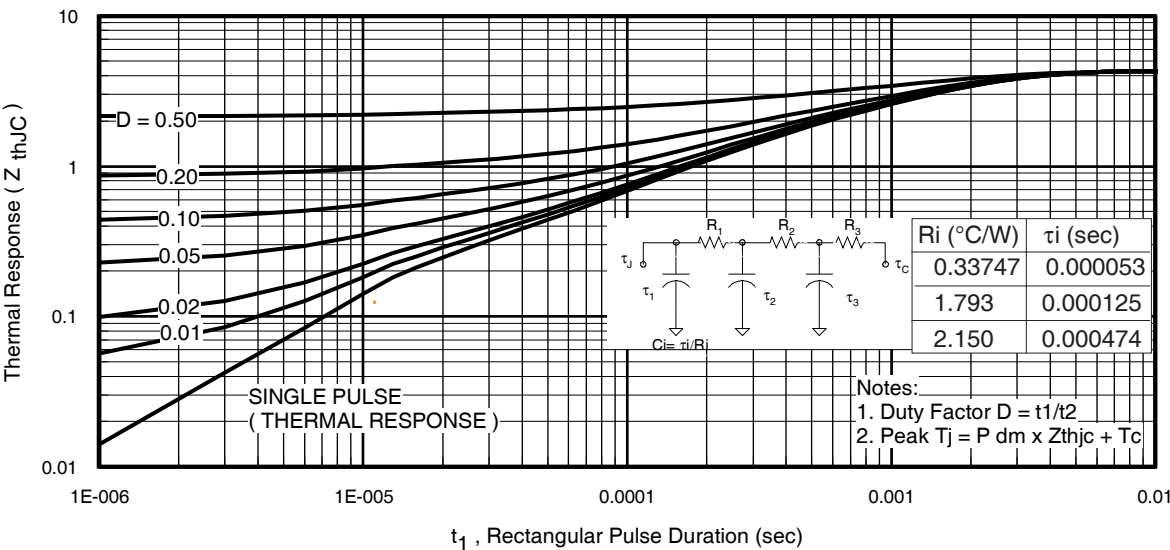

Fig 11. Maximum Effective Transient Thermal Impedance, Junction-to-Case
- ① Repetitive rating; pulse width limited by max. junction temperature. (See fig. 11).
- ② Limited by T_{Jmax} , starting $T_J = 25^{\circ}C$, $L = 1.29mH$
$Z_{thJC}(D, t_{av})$ = Transient thermal resistance, see figure 11)